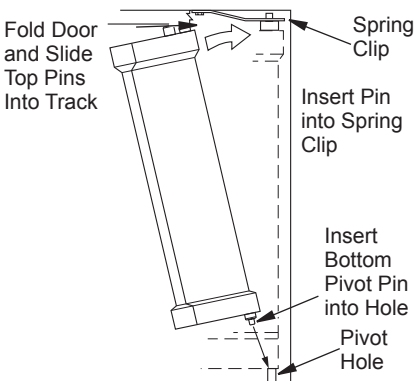

Figure 31 - Installing Bi-Fold Doors
4. Secure bottom door frame to brick with two hex screws provided as shown in Figure 31 using a 7/16" open end or adjustable wrench.